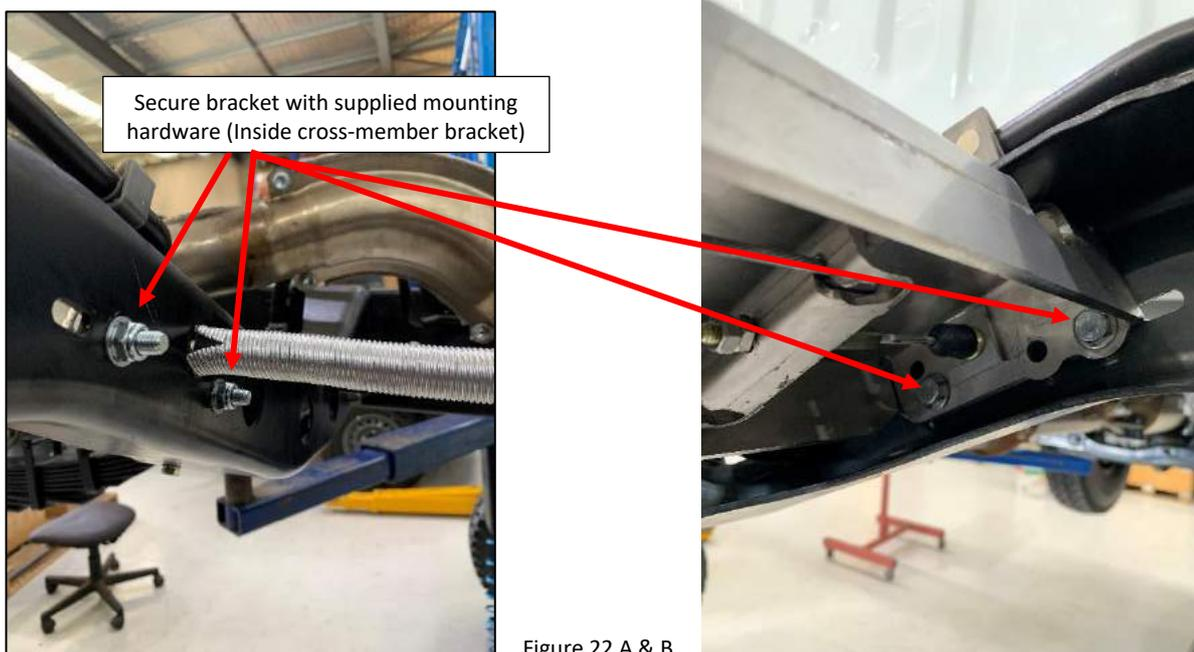
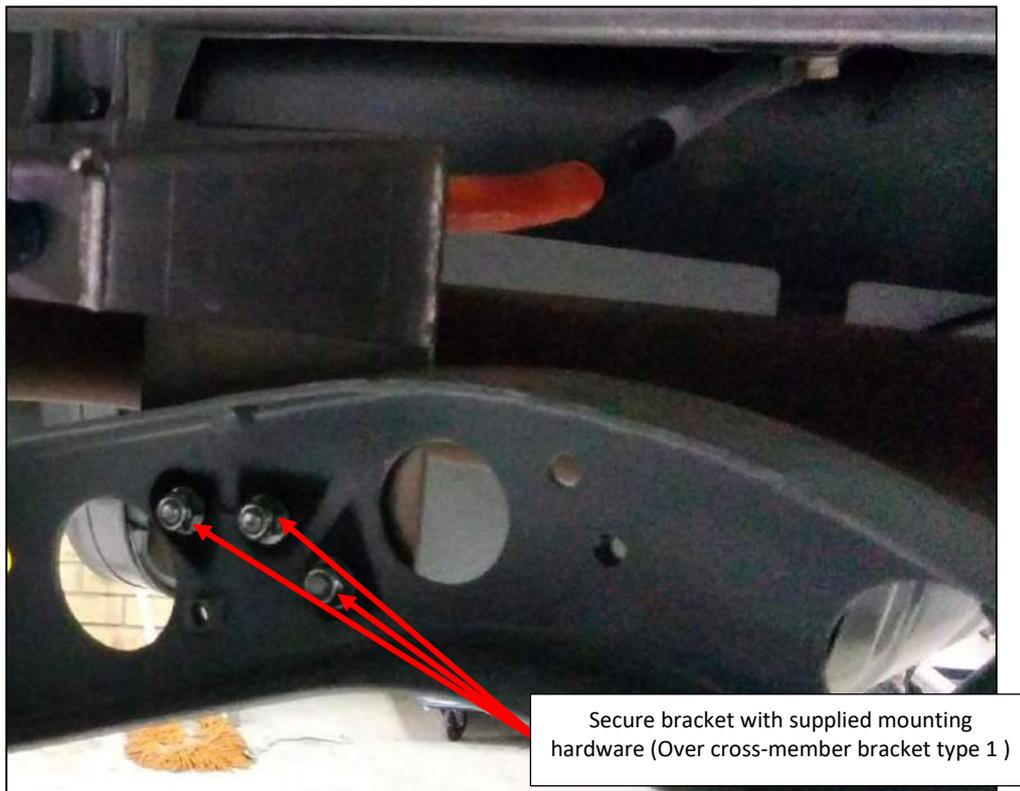

Figure 22 A & B
Figure 23
10. Figure 22 and Figure 23). Torque the fasteners to 20 Nm.